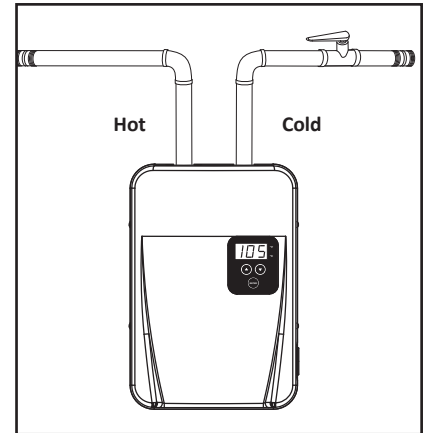

Figure 4 - Hot and Cold Water Lines Installed
2. Connect the hot water line to the hot outlet of the water heater. (Figure 4.)
3. Connect the cold water line to the cold inlet of the water heater. (Figure 4.)